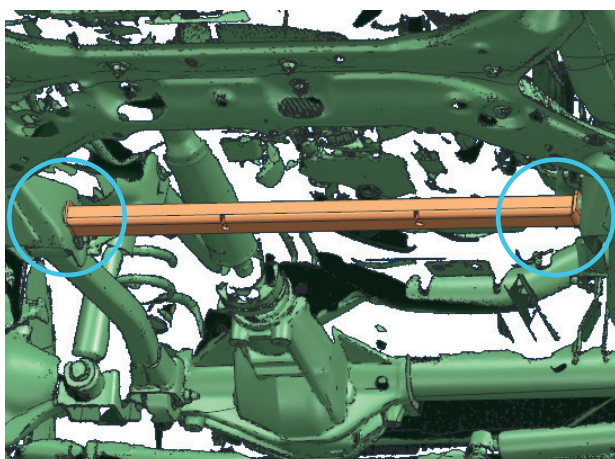

Fig. 3
3. Fix beam (item 2) using bolts M10x130, washers 10, spacers, nuts M10 (item A, E, D, F), as shown in fig. 3, 4.